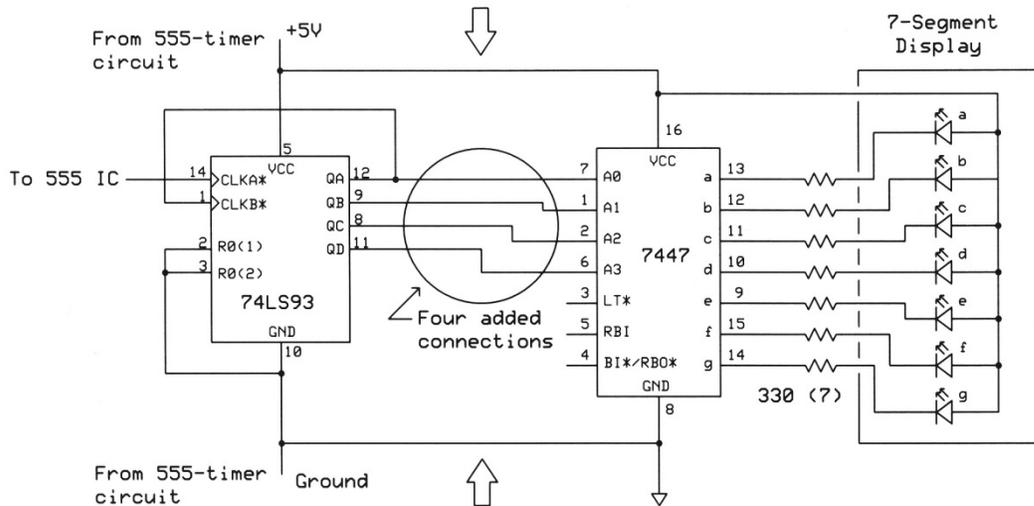
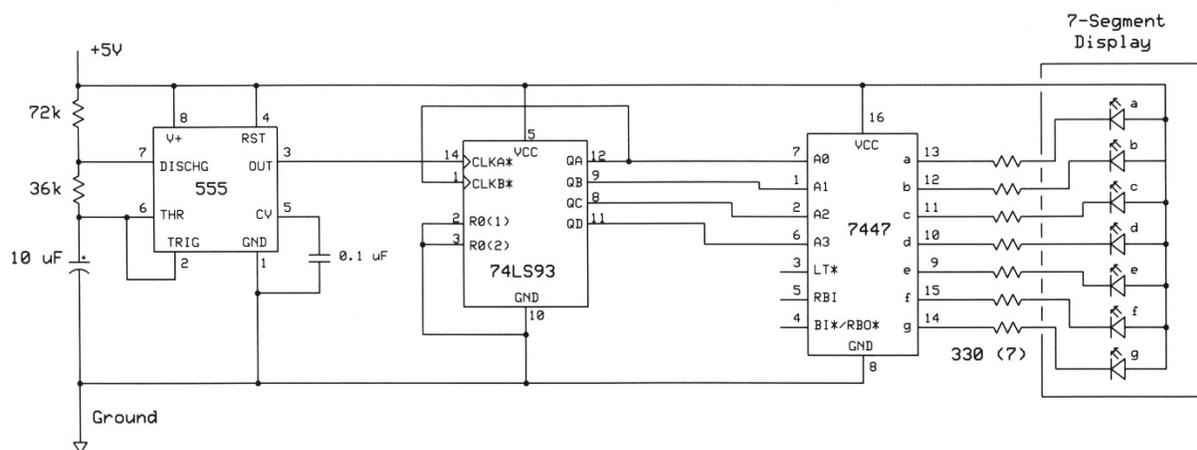

Figure 3.8.
Figure 3.9.
- d) Add the four wires highlighted with a large circle in **Figure 3.8** to connect your 74LS93 counter to the 7447 decoder/driver IC. Remember the 74LS93 counter and 555 timer circuit must have a shared +5V supply connection and a common ground connection or the circuit will not work properly. **Figure 3.9** shows the complete circuit for the 555 timer, 74LS93 counter, 7447 decoder/driver, and 7-segment display.